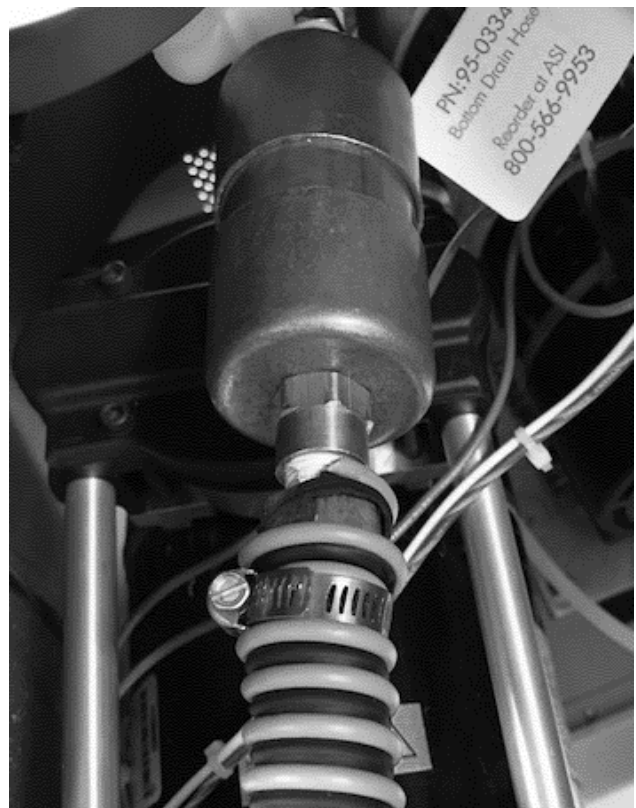

Fig. 7
- Attach the 26" piece nitrous exhaust tubing to the 3/4" hose bar and secure it with the provided hose clamp (Fig. 7).